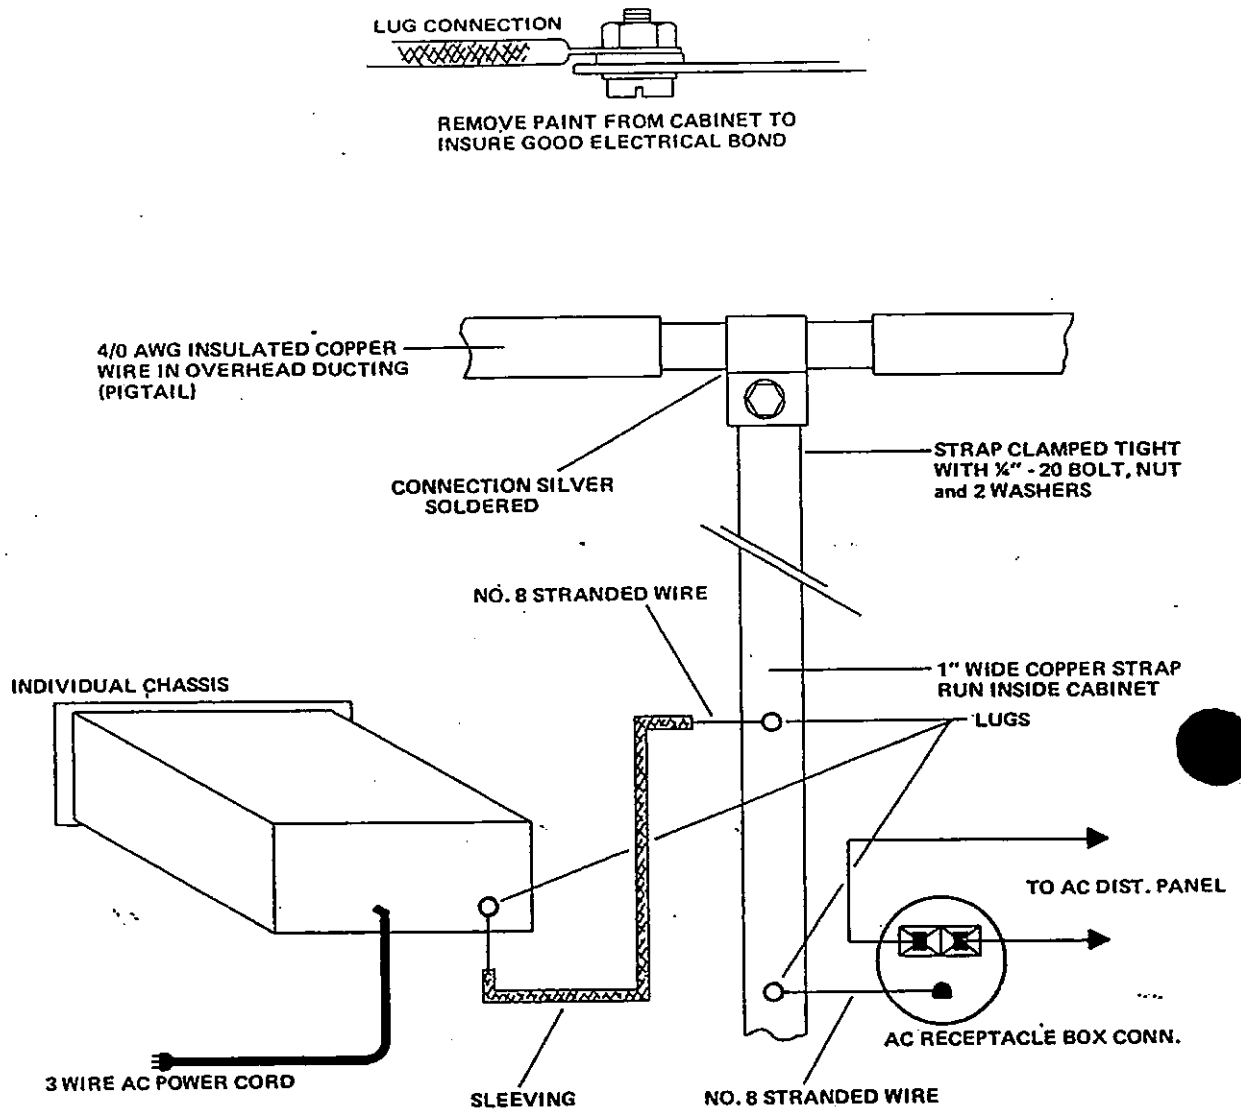

Figure 2.1. Chassis and Cabinet Grounding Details for Overhead Ducting
2.3.2.2 Ground the cabinet to the timer room grounding system (see Figure 2.1 for the overhead ducting scheme). Local connection with the system is made with silver solder and pigtail connections at either the overhead or below floor ducting. Additional grounding information may be found in COMDTINST M10550.15.
2.3.10 Ground all units to the copper strap in the cabinet, according to Figure 2.1. Plug the TCC, EPA, PGENS and Standby DC Power Supply into the cabinet's AC power receptacles.